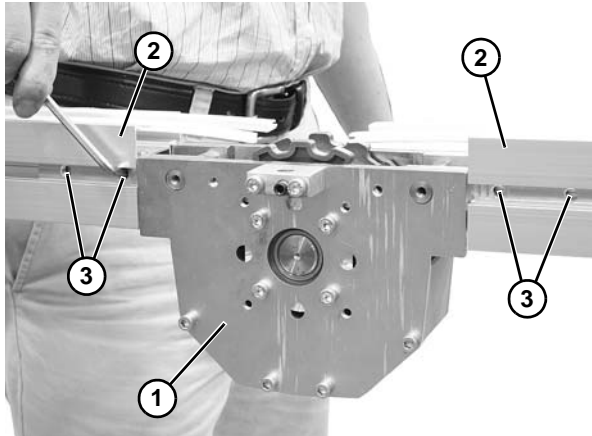

**Figure 27**
5. Install and tighten two hex head screws (**Figure 27, item 1**) on each side to secure assembly to frame.